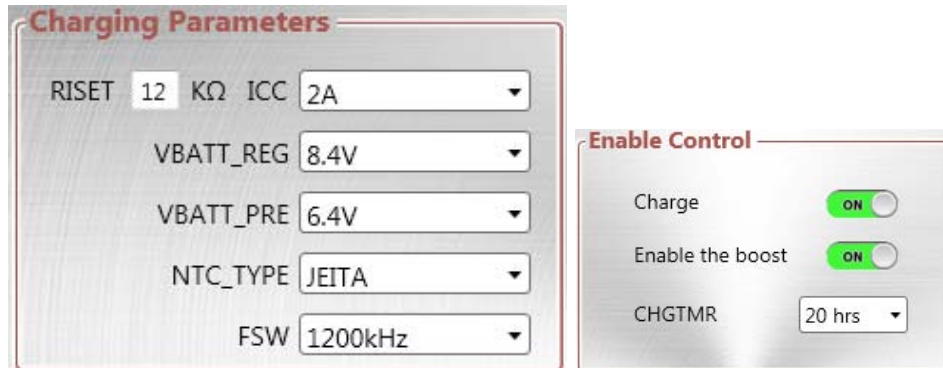

Figure 6: Charging Parameters
3. Configure the charging parameters, such as the charge current, battery regulation voltage, constant charge timer, and NTC type (see Figure 6).